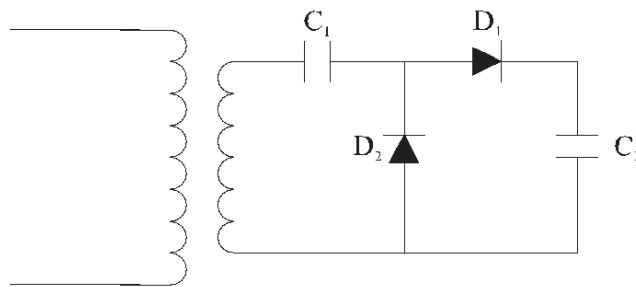

Figure 7-2-1. Voltage doubler circuit.
1. Assemble the circuit shown in Figure 7.2.1 with $C_1 = C_2$ and observe the voltage across the diodes and capacitors terminals.